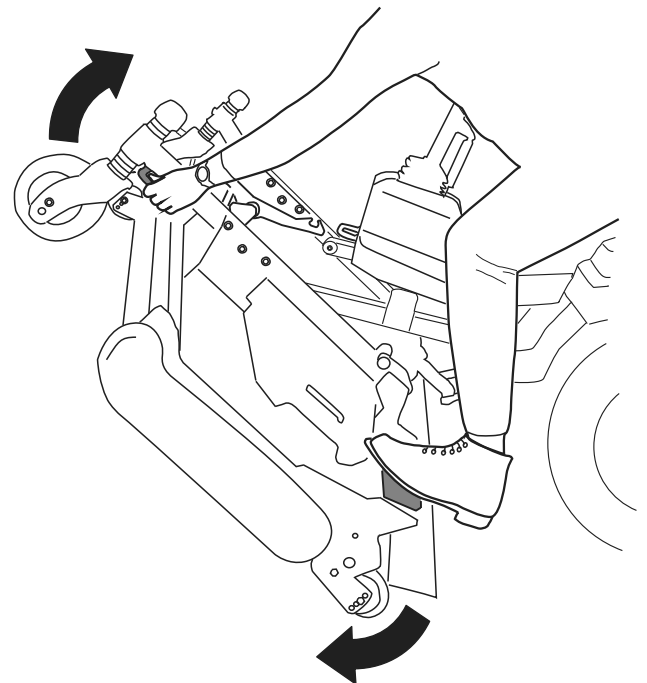
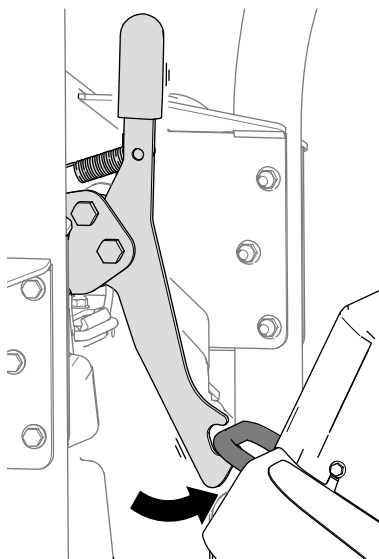
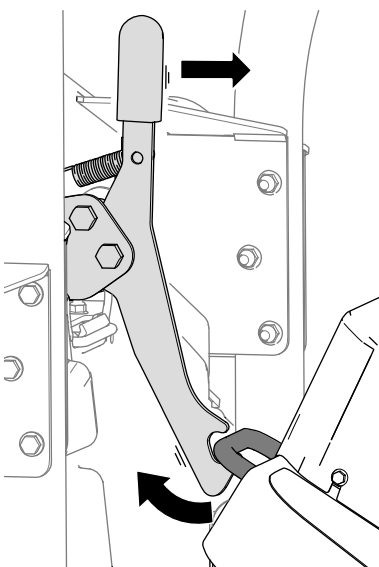

Figure 36
Figure 37
Figure 38
5. Rotate the cutting unit (Figure 36) so that the latch engages with the tie-down bracket (Figure 37).
1. Release the cutting-unit latch from the tie-down bracket (Figure 38) by slightly rotating the cutting unit slightly forward (refer to Figure 36) and pulling the latch handle forward.